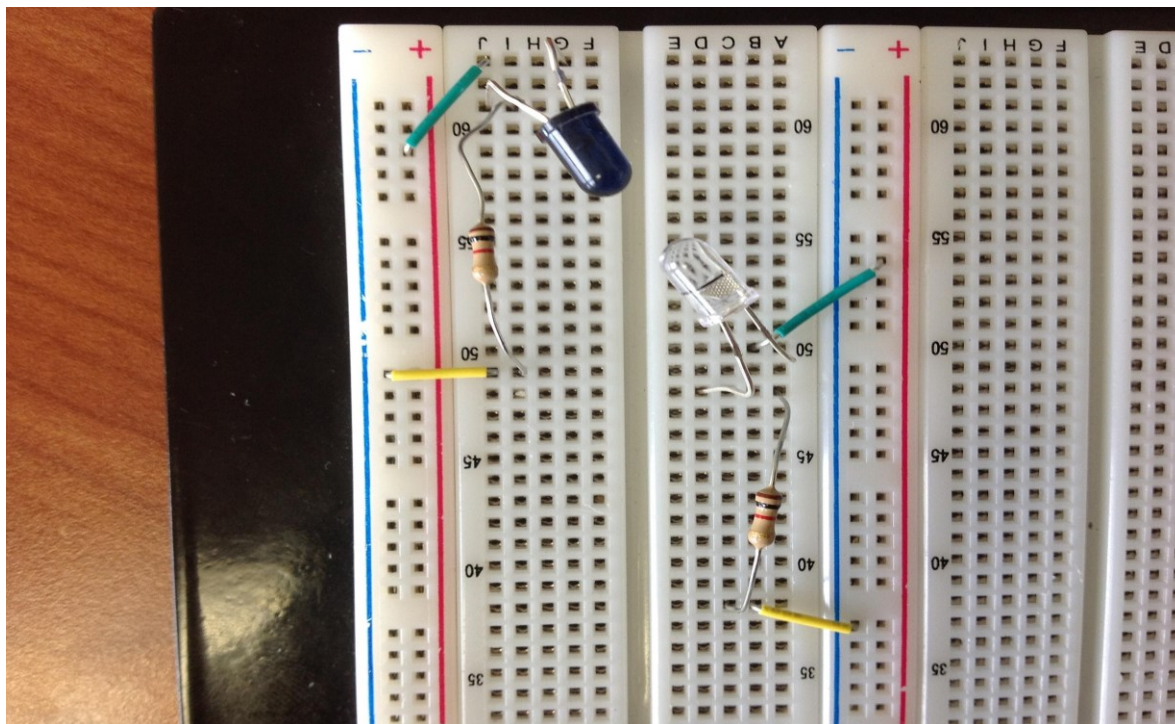

Figure 4.10 – IR Emitter and Detector Alignment
- 1) The emitter and detector are quite directional. You will need to carefully align them so that they are pointing at each other as shown in Figure 4.10. It might be helpful if you put the emitter and detector on two different breadboards (if you and your partner have separate breadboards). This will make it much easier to fiddle with the alignment.